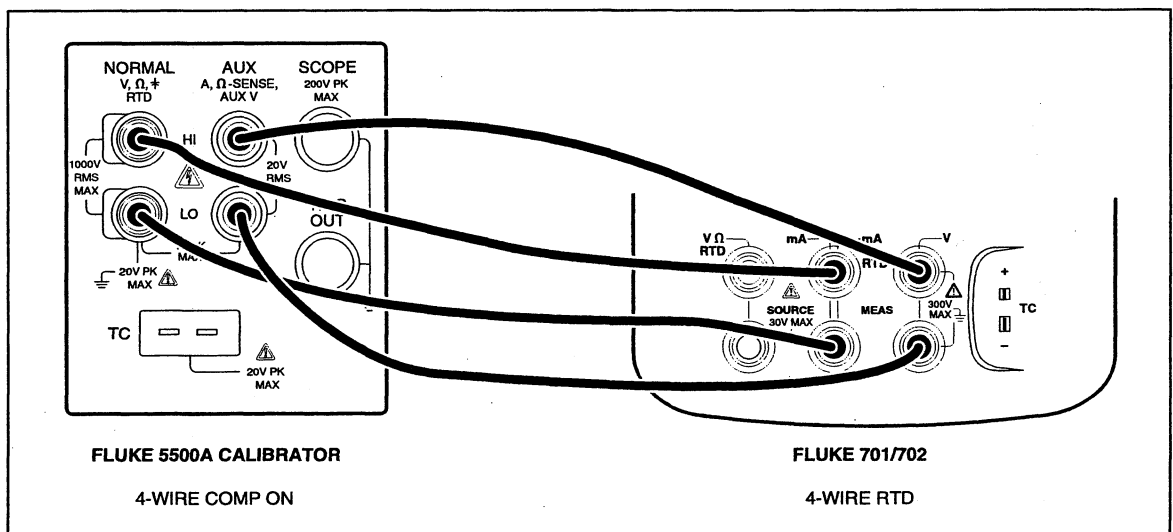

Figure 3-12. Four-Wire RTD Measure Verification Connections
1. Connect the UUT to the 5500A as shown in Figure 3-12. Use a four-wire connection and 4-wire compensation.
2. Set the UUT to the RTD measure function, Pt100 (385), and four-wire termination.
3. Set the 5500A to RTD, Pt100 (385) at -200°C, and comp four-wire. Set the 5500A to Operate.